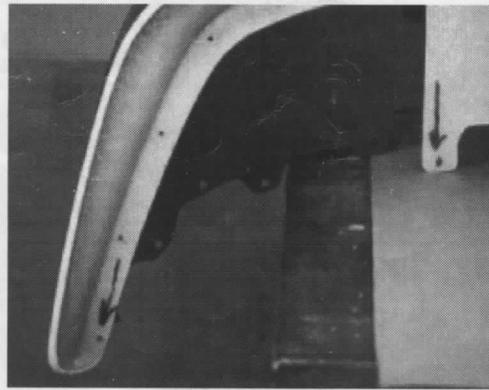
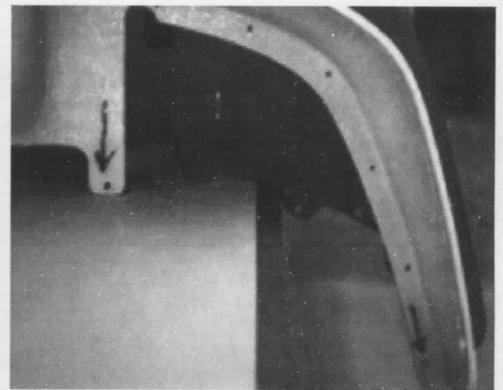

FIG. 3A
FIG. 3B
3. SECURE SPOILER TO CAR USING FOUR (4) ORIGINAL FACTORY MOUNTING POSITIONS. CORRESPONDING SPOILER MOUNTING HOLES ARE SHOWN IN FIG. 3A FOR RIGHT SIDE AND FIG. 3B FOR LEFT SIDE (SEE FIG. 3A & 3B).